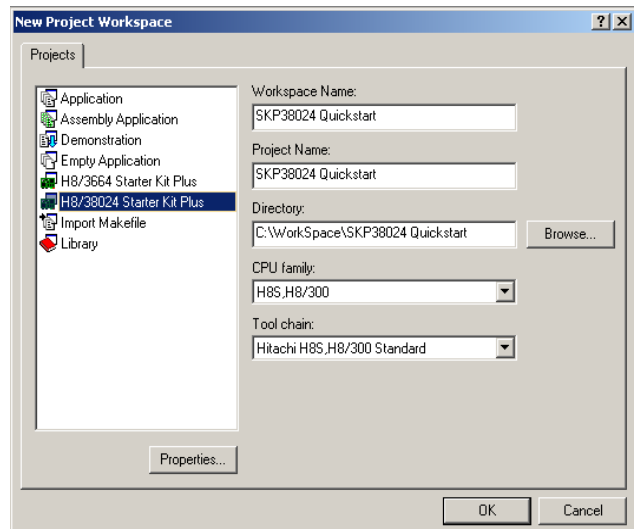

Figure 2: HEW New Project Workspace
- ii.) Select “H8/38024 Starter Kit Plus” (Figure 2).